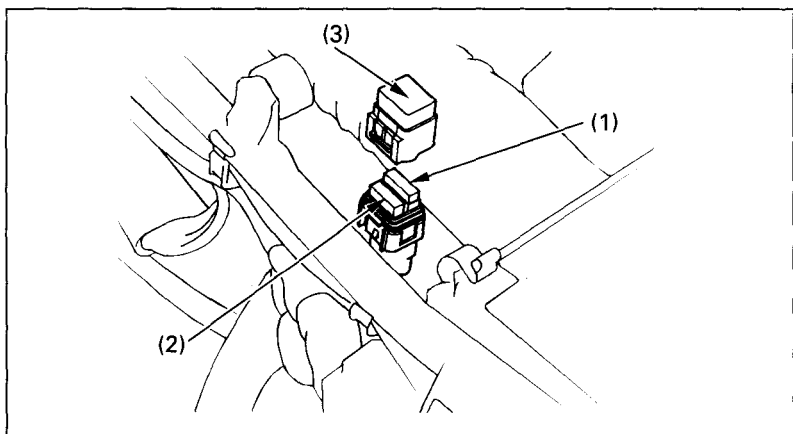

Fig. 4-21
As illustrated in Fig.4-21, the fuse (1) is located next to the air cleaner case cover behind the seat.